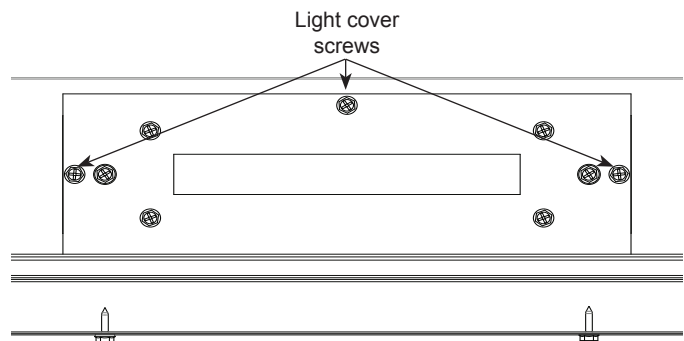

Figure 27 Top Light Screws
1. Remove three screws holding light cover in place (as shown in Figure 27)
2. Insert (1) 90W bulb provided into socket